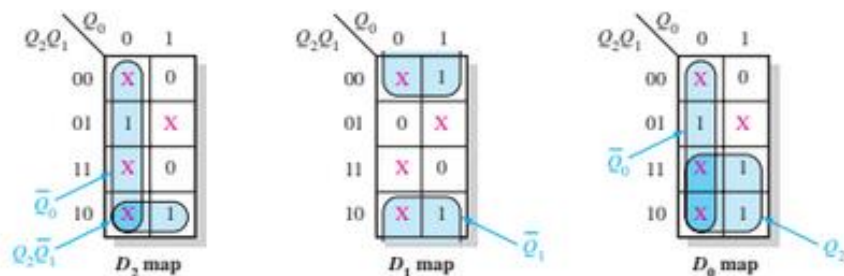

FIGURE 9–31
Step 4: The D inputs are plotted on the present-state Karnaugh maps in Figure 9–31. Also “don’t cares” can be placed in the cells corresponding to the invalid states of 000, 011, 100, and 110, as indicated by the red Xs.
Step 5: Group the 1s, taking advantage of as many of the “don’t care” states as possible for maximum simplification, as shown in Figure 9–31. The expression for each D input taken from the maps is as follows: